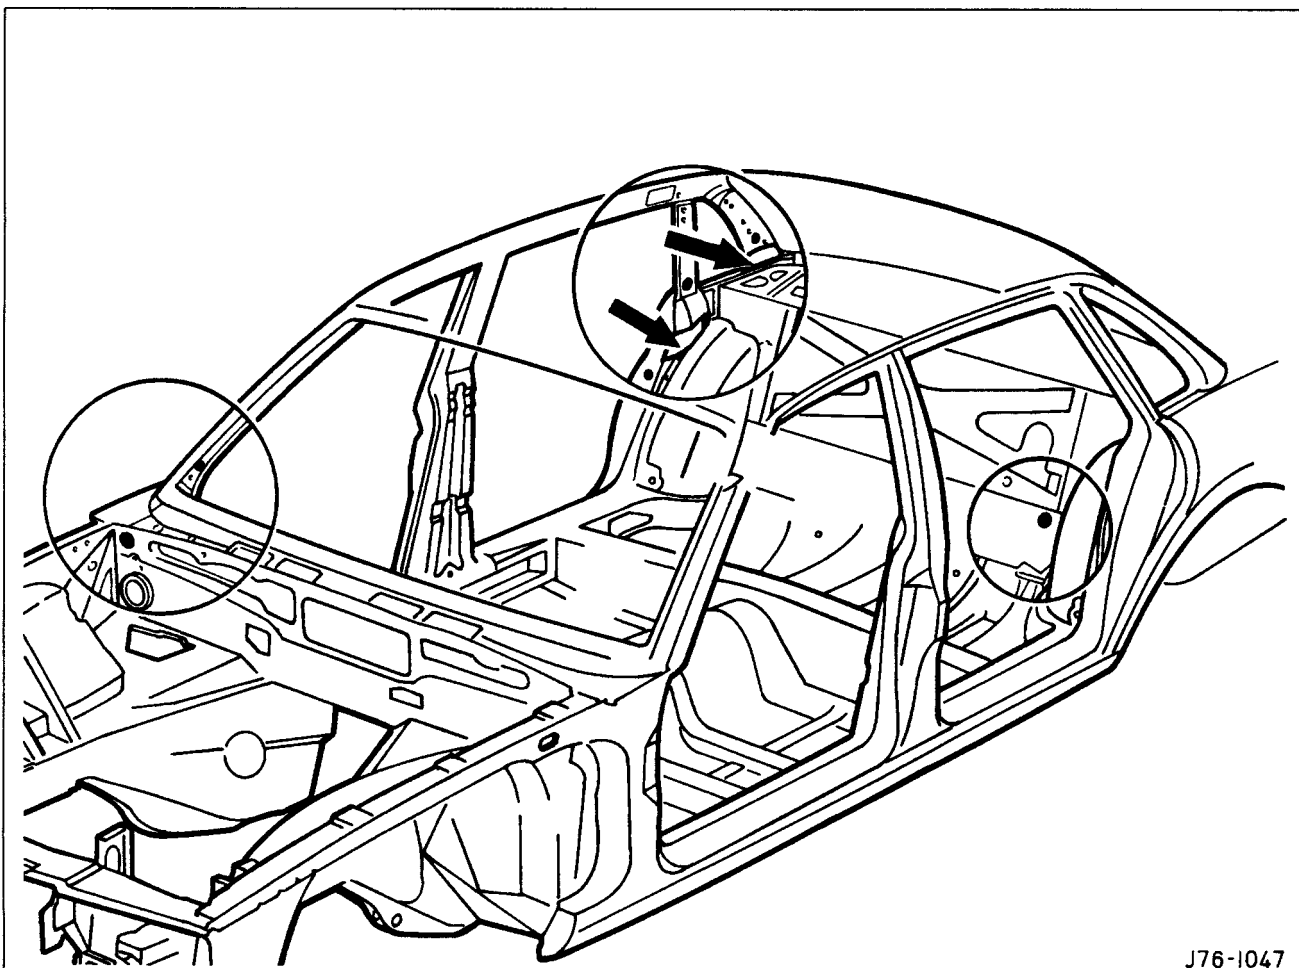

Fig. 1
- Expanded foam should be introduced into points circled in Fig. 1.